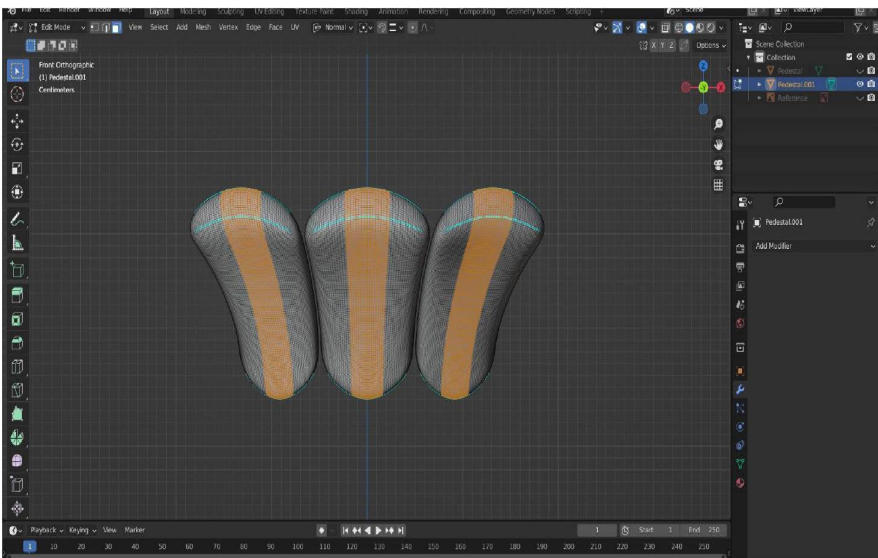

Figure 6.11: Mesh with applied Subdivision Surface Modifier set to 4 Levels, as seen in Edit Mode
16. After pressing **Apply** in the Modifier's upper right-hand drop-down menu, if we enter **Edit Mode** again, we can see what 4 levels of subdivision looks like as shown in *Figure 6.11*: